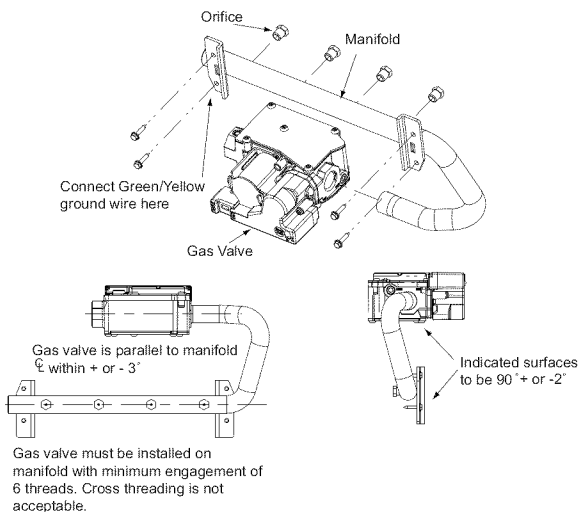

Fig. 2 - Modulating Gas Valve with Orifices
4. Note the location of the green/yellow wire ground wire for re-assembly later. See Fig. 2.